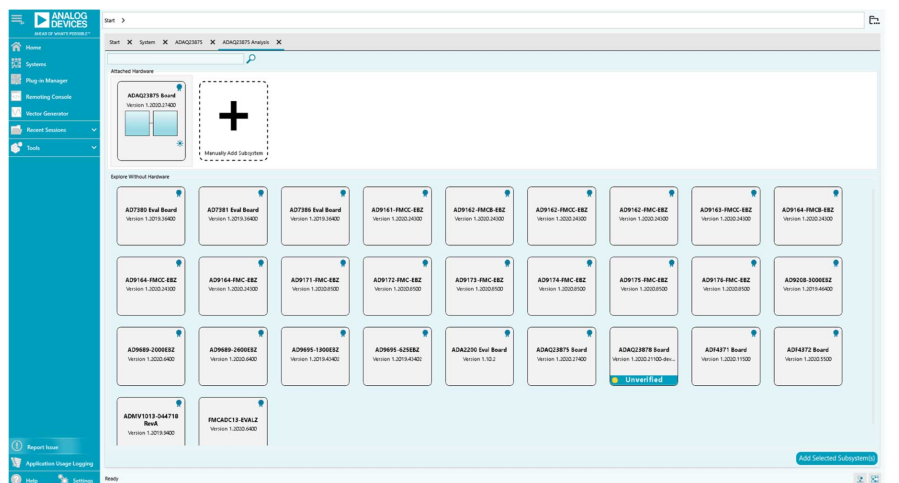

Figure 10. EVAL-ADAQ23875FMCZ ACE Software Main Window
1. From the **Start** menu, select **All Programs > Analog Devices > ACE > ACE.exe** to open the main software window shown in Figure 10.
4. Double-click the EVAL-ADAQ23875FMCZ board icon to open the window shown in Figure 10.